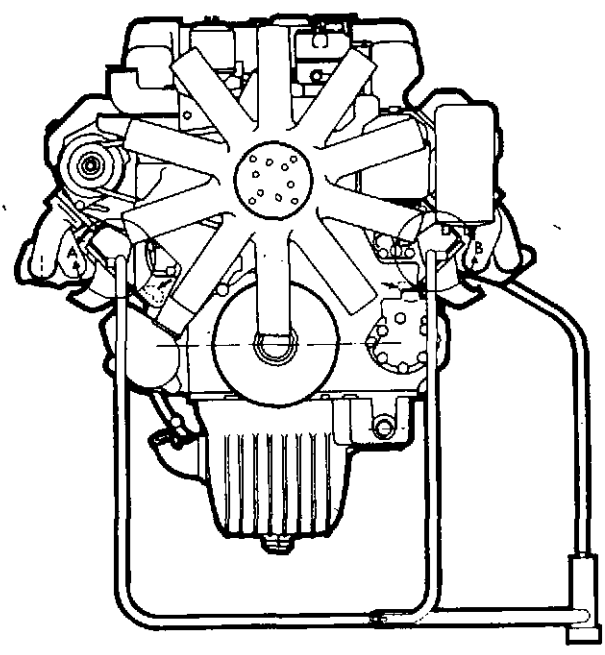

Fig. 5
Through outlet to engine heater from the coolant passages in timing gear housing, which are dotted in and marked with arrows in fig. 5, the most effective method of heating is obtained.
- 3. Part magnification A and B fig. 5